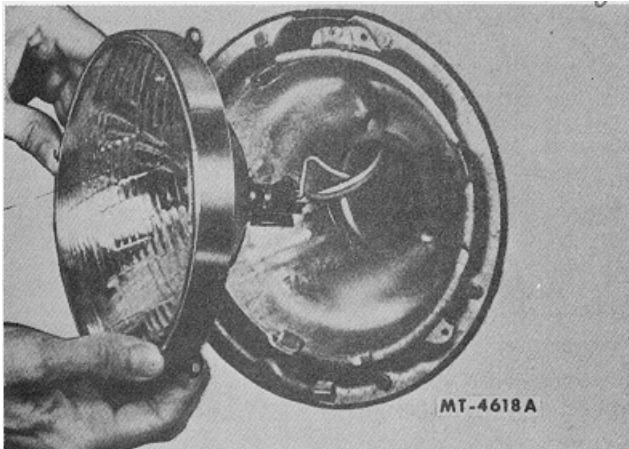

Fig. 6
3. Remove the retaining ring and sealed beam unit from the headlight, Fig. 6. In the event the retaining ring is equipped with the enlarged screw mounting holes rotate the ring clockwise enough to permit the ring to pass over the screw heads.